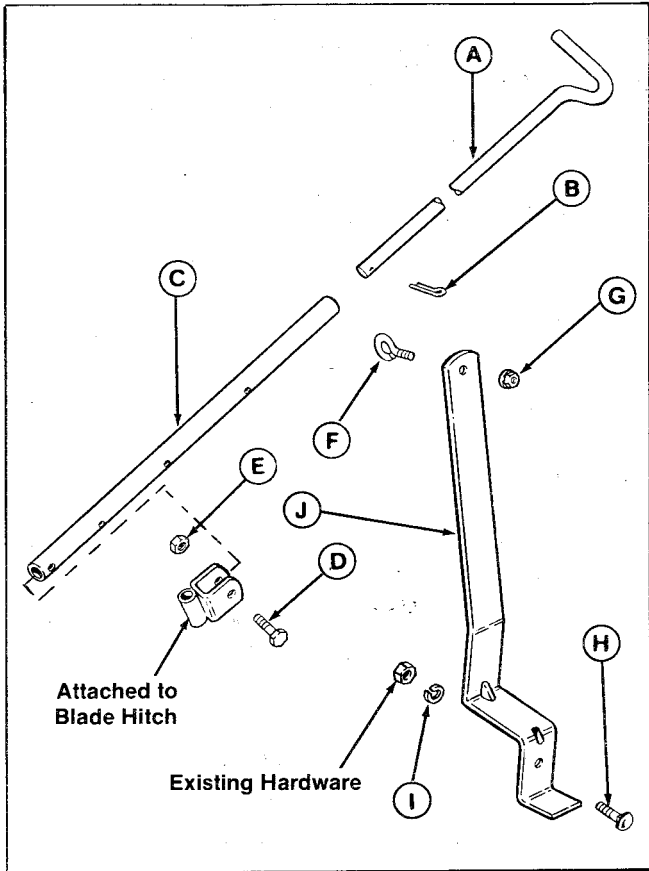
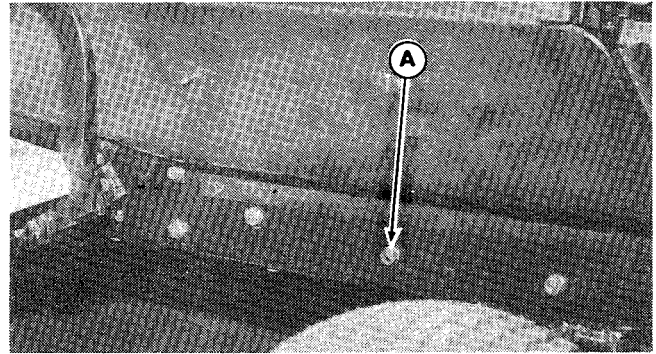
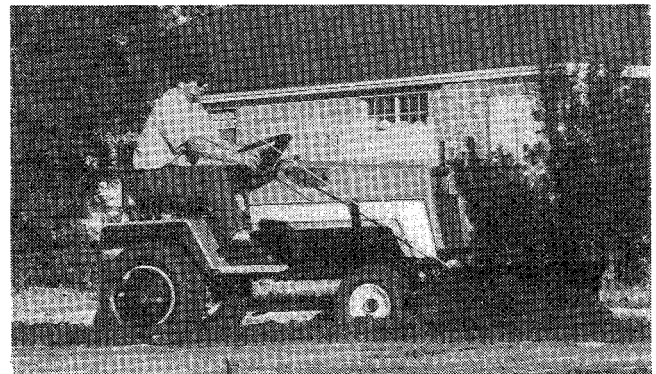

Figure 8.
Figure 9.
Figure 10.
7. Attach the support (J, figure 8) to tractor frame as follows. First, remove the existing hardware (A, figure 9) at right-rear engine mount. Install the support at this location, using new 3/8-16x1-1/4 carriage bolt, lockwasher, and existing nut.
8. Insert front end of extension (C, figure 8) into fork and attach with cap screw (D) and nut (E). Slip eyebolt (F) onto handle (A). Connect the handle (A) to the extension (C) with cotter pin (B). Spread both legs of cotter pin fully. Connect the eyebolt (F) to support with the nut (G). The control rod is shown in figure 10. (Figure 10 shows early model with one-piece control rod.)